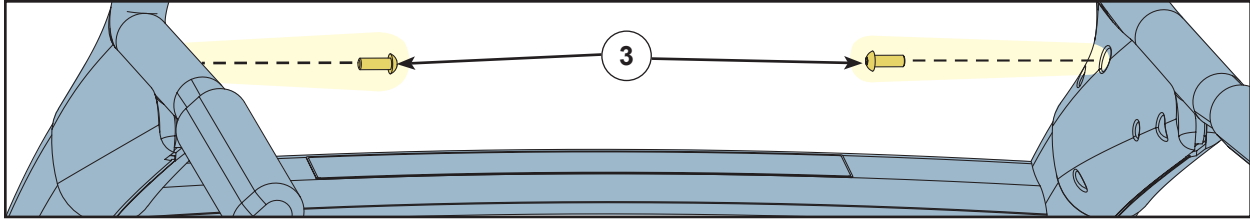

Figure 7
- A. Using the Allen wrench provided, secure the handrail with two 5-16-18 x 7-8 screws. See Figure 7. **NOTE:** You may need to lift the console slightly to line up the holes.